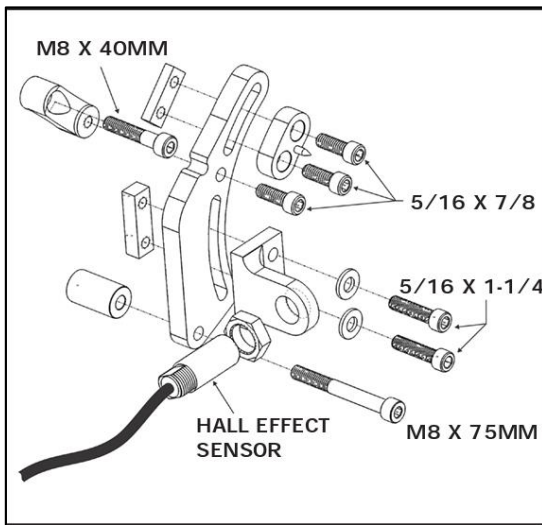

Figure 1: Pickup Bracket Assembly
1. Mount the pickup holder and pointer onto the bracket using the bolts provided. **(Figure 1)** Loosely install the offset spacer to the bracket, then line up the brackets mounting hole with the spacer. The pickup base will only install one way, do not try to force the bolts in, and hand tighten the bolts.